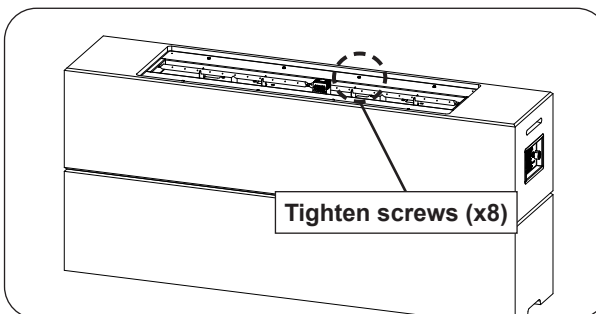

Fig. 30-3 Secure burner
2. Use a $\frac{5}{16}$ " nut driver to fasten the burner to the base (see Fig. 30-3).